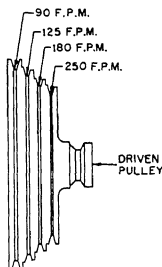

Figure 5-4.—Speed change pulley.
6. Select the proper surface speed (feet-per-minute), and adjust the V-belt for that speed. (See fig. 5-4.)